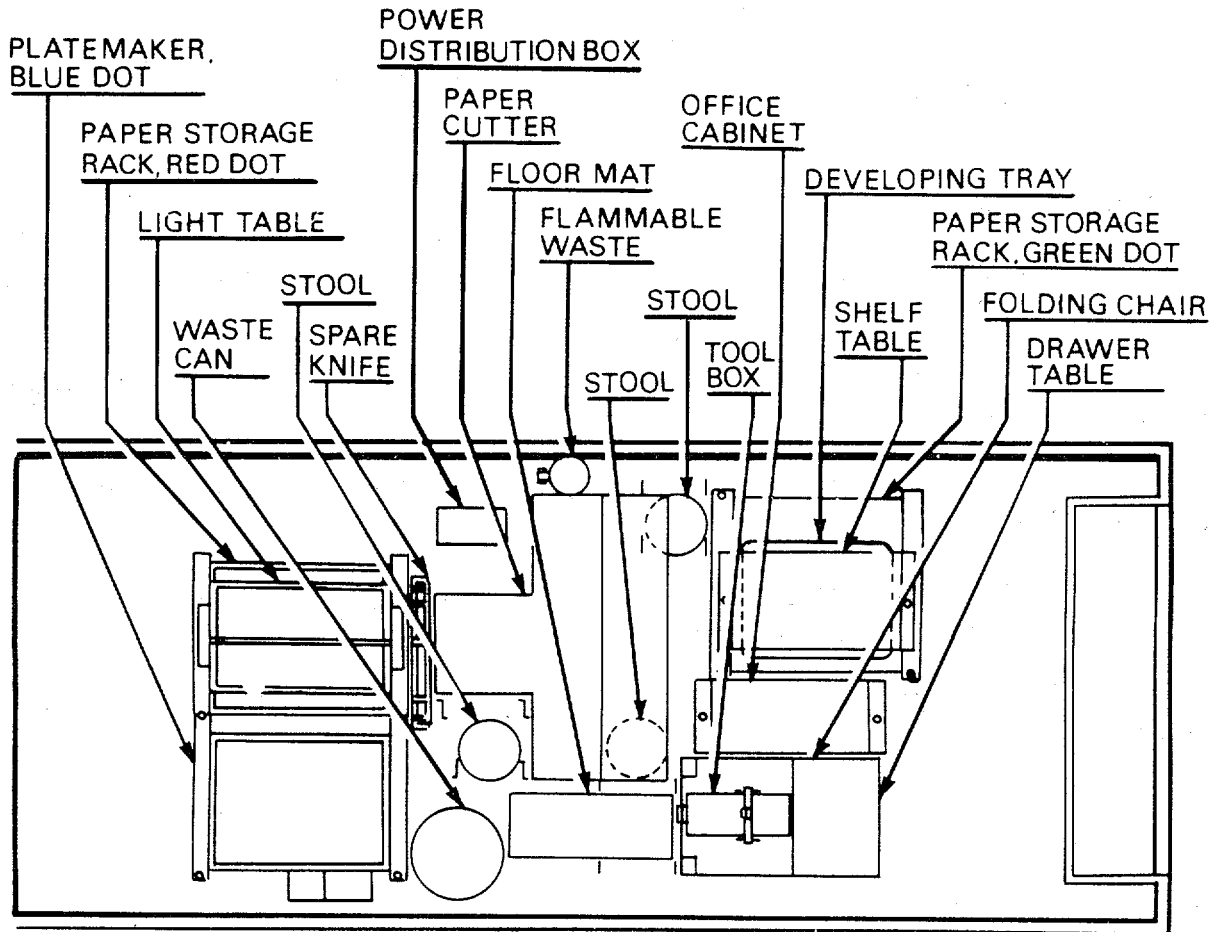

Figure 2-16. Finishing Section Equipment Storage Location
- i .Refer to Figure 2-16 and stow equipment in the following order.
- (1) Roll up floor mat and place in storage location, and place cover on paper cutter.
- (2) Place the folding chair with the white dot in position over the white dot on the shelter floor.
- (3) Place the office cabinet with yellow dot in position over the yellow dot on the shelter floor.
- (4) Place the two-shelf table with black dot on top of the paper storage rack with green dot, and under the black dot in the shelter ceiling.
- (5) Place paper storage rack with green dot in position over green dot on shelter floor.
- (6) Place paper storage rack with red dot in position over the red dot on the shelter floor.
- (7) Place the platemaker with blue dot in position over the blue dot on the shelter floor.
- (8) Place developing tray with brown dot in position with the brown dot on shelf table and secure with rubber ropes.
- (9) Place stools, tool box and waste can in storage locations shown in Figure 2-16 and secure in place with rubber tie downs. Remove flexible air conditioner duct and stow inside waste can.